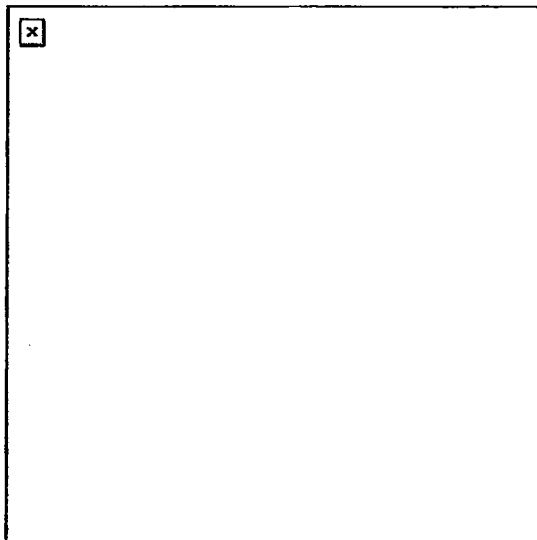

Figure 3. Indexing the feed slide assembly.
- c. Index the feed slide assembly to the left and close the top cover (Figure 3).